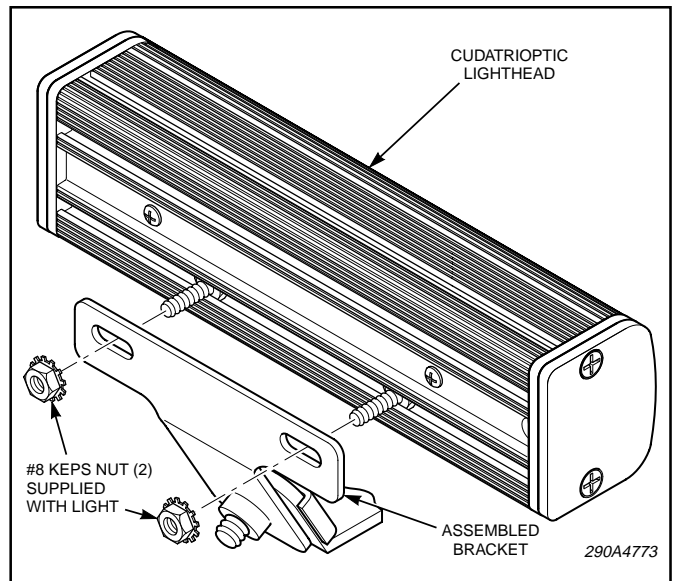

Figure 2.
3. See figure 2. Attach the light head onto the bracket as shown using the #8 keps nuts supplied with the light head.